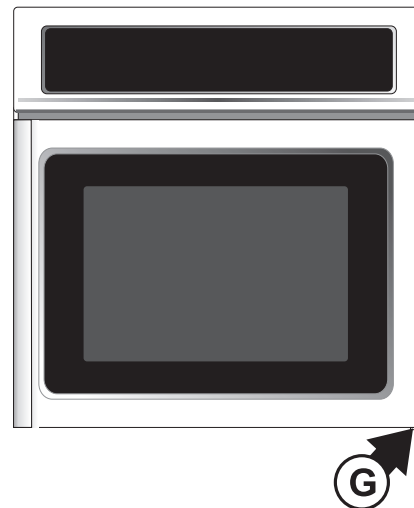

Figure 14
6.4.4. Fix the threaded pin in the lower hinge (See G, Figure 14).